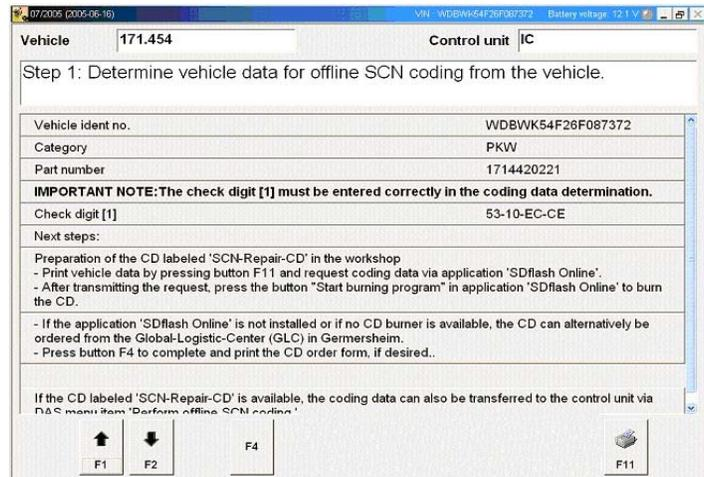

Figure 4
5. Print out vehicle data for SCN Coding by pressing 'F11' (Figure 4)